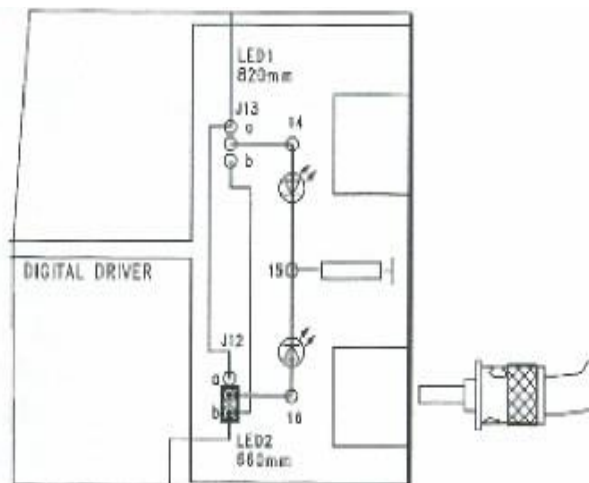

Figure 5.2: Connection Diagram
7. Disconnect the jumper J11-J13 if connected and connect the jumper J12b,so that the circuit can be arranged as shown in fig 5.2